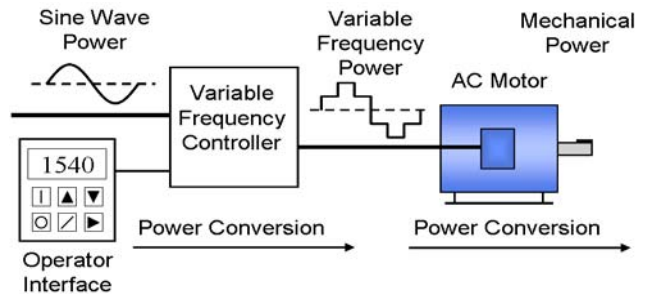

Figure 1- VFD varies the frequency and voltage supplied to the blower motor controlling energy consumption
- A Variable Frequency Drive (VFD) is an electrical device that varies the frequency and voltage of the power supplied to the blower motor to control airflow (see Figure 1). With a VFD, the blower is able to operate at multiple speeds to provide the required airflow, helping the rooftop unit control energy usage while meeting comfort requirements and lower operating costs.